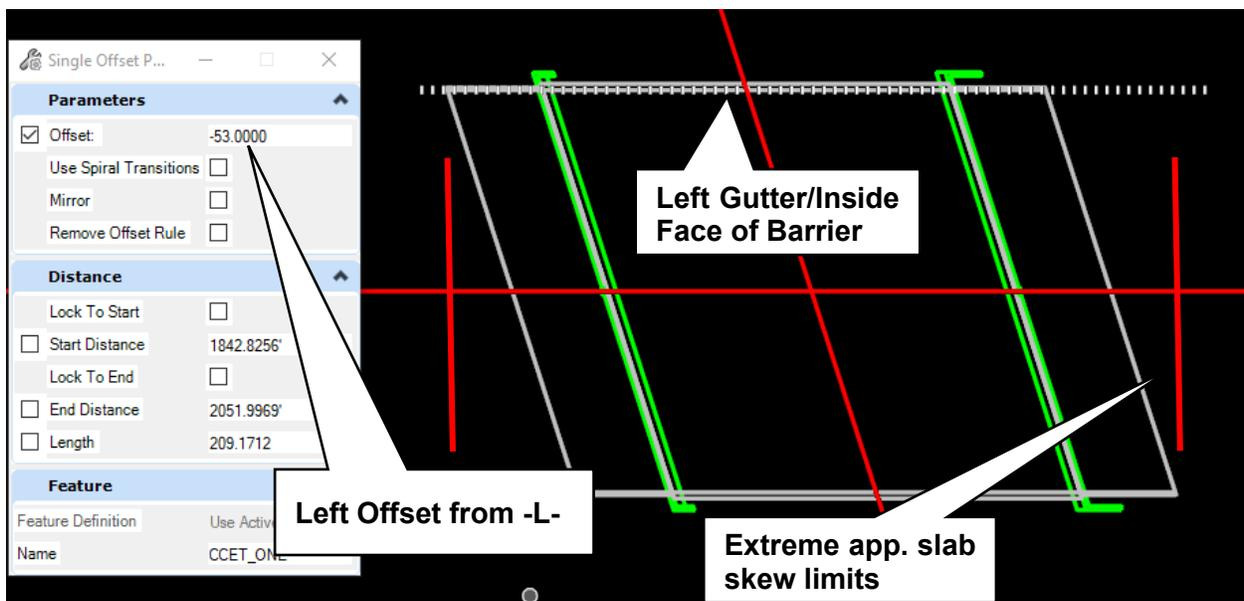

Figure 2-11: Left Gutter Offset
- Following the steps outlines in Module 6 – Initial Corridor Modeling, create a New Corridor (Corridors > Create > New Corridor) along the -L- alignment within the limits of the Begin and End Approach as shown in Figure 2-11: Left Gutter Offset.